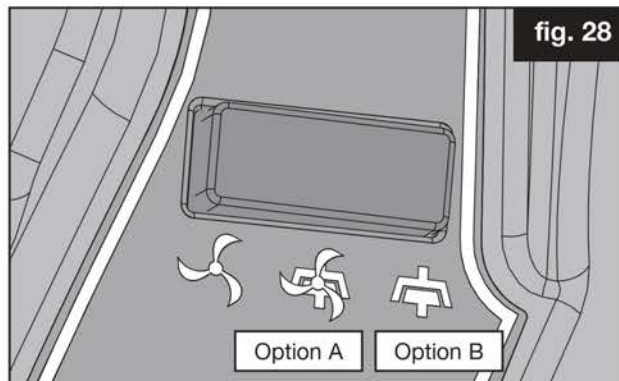

fig. 28
1. Select either PTO & Deck (Option A) or PTO Only (Option B) on the dashboard display (fig. 28).